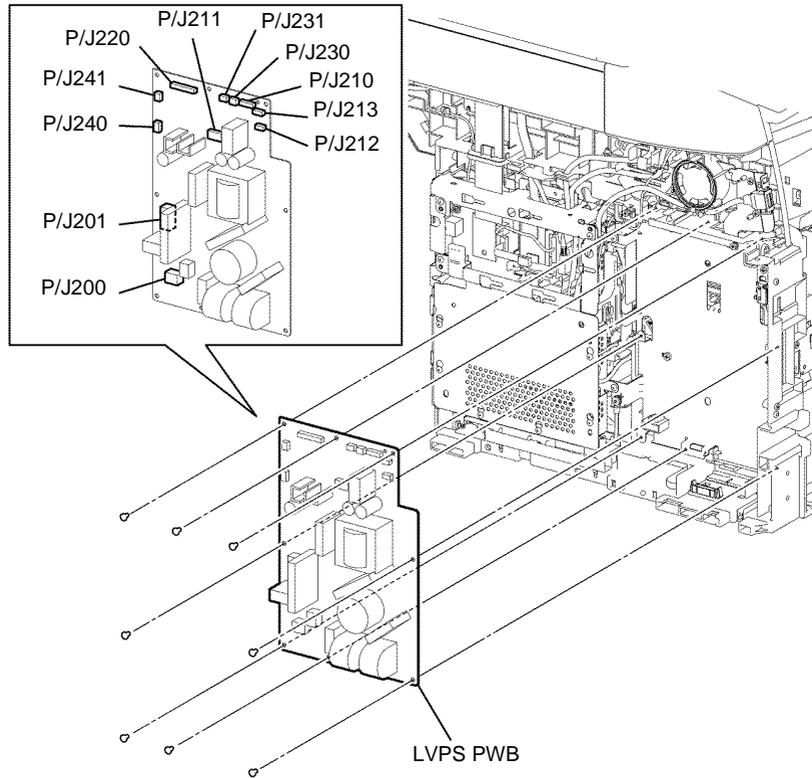

Figure 2 LVPS PWB removal
8. Disconnect all connectors from the LVPS PWB, Figure 2.
- Remove eight screws (silver, M3, 6mm) that fix the LVPS PWB, then remove the LVPS PWB, Figure 2.